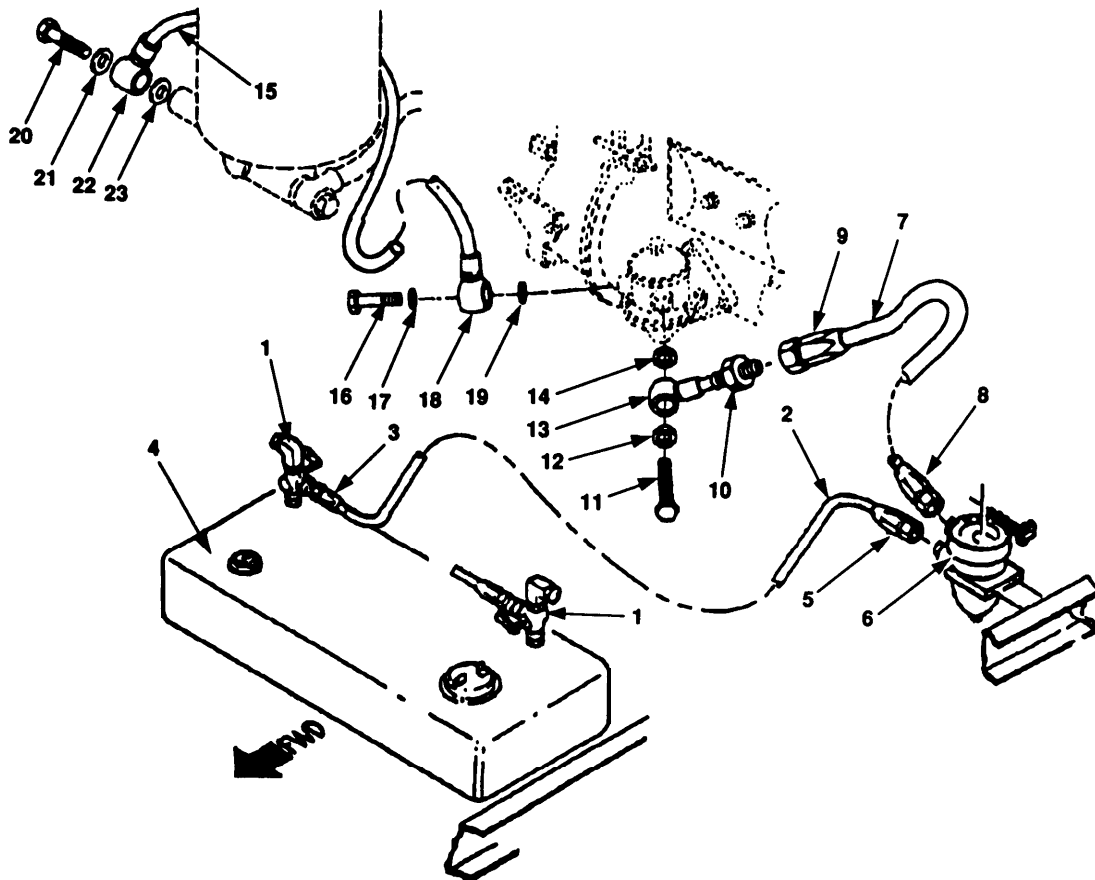
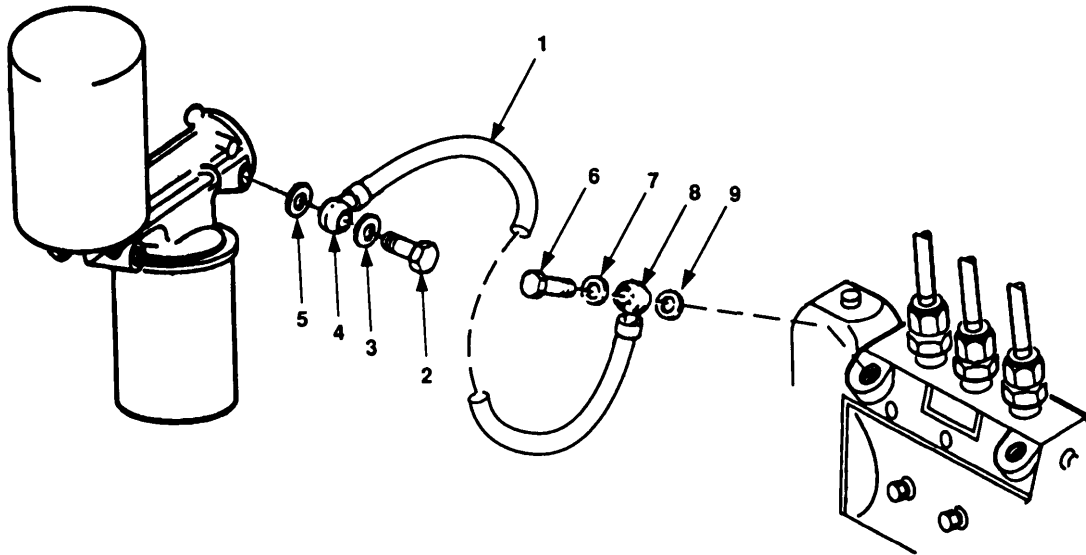

Figure 4-20. Low Pressure Fuel Lines.
Figure 4-21. Fuel Filter Outlet Line.
- a. Set both source selector valves (figure 4-20, 1) to the off position.
- b. Disconnect fuel supply line (2) as follows:
- (1) Tag and disconnect fuel supply line connection (3) at source selector valve (1) on fuel tank (4).
- (2) Tag and disconnect fuel supply line connection (5) at water separator (6) inlet fitting. Disconnect clamps as required.
- (3) Remove fuel supply line (2) and cover openings.
- c. Disconnect fuel feed pump line (7) as follows:
- d. Tag and disconnect fuel filter line (15) as follows:
- (1) Remove banjo bolt (16), washer (17), banjo connector (18) and washer (19) from fuel pump.
- (2) Remove banjo bolt (20), washer (21), banjo connector (22) and washer (23) from fuel filter inlet.
- (3) Remove fuel filter line (15) and cover openings.
- e. Tag and disconnect fuel filter outlet (figure 4-21, 1) as follows:
- (1) Remove banjo bolt (2), washer (3), banjo connector (4) and washer (5) from fuel filter.
- (2) Remove banjo bolt (6), washer (7), banjo connector (8) and washer (9) from fuel injector inlet.
- (3) Remove filter outlet line (1) and cover openings.
- (1) Remove covers from openings and position overflow line (1) on engine.
- (2) Install clamp (8), lockwasher (7), screw (6) and nut (5).
- (3) Tighten clamp (3) to secure fuel overflow line (1) in banjo connector (4).
- (4) Connect fuel overflow line connection (2) into selector valve fitting.
- e. Install fuel filter outlet (figure 4-21, 1) as follows:
- (1) Remove covers from openings and position filter outlet line (1) in place.
- (2) Install washer (9), banjo connector (8), washer (7), and banjo bolt (6) into fuel injector inlet.
- (3) Install washer (5), banjo connector (4), washer (3), and banjo bolt (2) into fuel filter.
- f. Install fuel filter line (figure 4-20, 15) as follows:
- (1) Remove covers from openings and position fuel filter line (15) in place.
- (2) Install washer (23), banjo connector (22), washer (21), and banjo bolt (20) from fuel filter inlet.